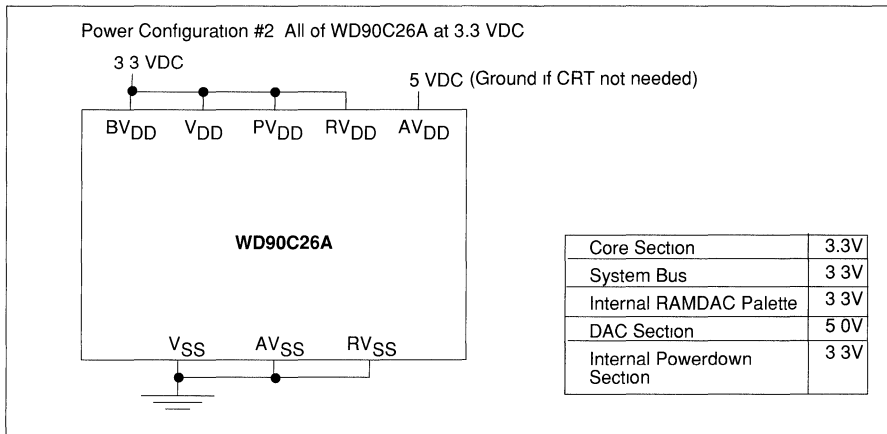

FIGURE 6-4 POWER CONFIGURATION FOR 3.3 VDC OPERATION
- Power Configuration for 3.3 VDC Operation (Figure 6-4)
For 3.3 VDC operation, each V_{DD} pin of the WD90C26A is connected to 3.3 VDC power source, except the AV_{DD} pin (see Figures 6-4 and 6-5). In systems where the WD90C26A operates in a 3.3 VDC environment, the DAC AV_{DD} pin must be connected to 5.0 VDC in order to directly drive a CRT.